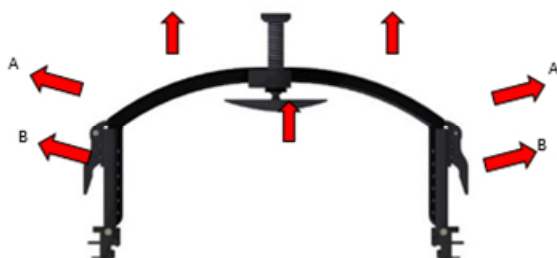

Figure 1
1. Position the arch in the highest position by opening the locks (A) on both sides and moving the arch vertically upwards to position 5. Close the locks again. (Figure 1)